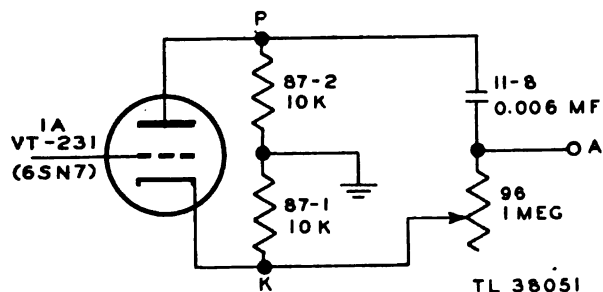

Figure 43. Phase shifter circuit, equivalent diagram.
a. The circuit of the phase shifter is redrawn in figure 43. To make it more easily understood the d-c current path is omitted and only those components are shown that are necessary to the phase shifter operation. Capacitor 1C (fig. 61) effectively grounds one end of the plate load resistor 87-2 for alternating current and the end of the cathode resistor 87-1 is directly grounded and not bypassed. The result is that, neglecting capacitor 11-8 and variable control 96, the voltage drops across resistors 87-2 and 87-1 are in phase and approximately equal. When capacitor 11-8 and variable control 96 are connected across the plate and cathode of tube 1A, the potential of point A remains constant with respect to ground, but the phase of this voltage may be varied by means of control 96. The voltage drops across capacitor 11-8 and resistor 96 are 90° out of phase. The voltage between point A and ground is the difference between the voltage drops across resistor 87-2 and capacitor 11-8. This same voltage is the difference between the drops across resistor 87-1 and variable resistor 96. This difference is equal in magnitude to the drop from P to ground or K to ground, but the phase is dependent on the value of resistance in control 96. If the value of resistance in control 96 is large, the phase is almost the same as that of the voltage from P to K. If 96 is made small the voltage from A to ground is almost 180° out